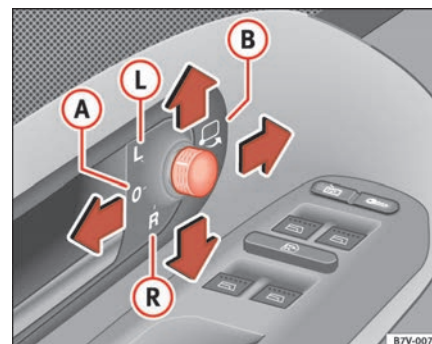

Fig. 81 Automatic anti-dazzle function for interior mirror
This function can be activated and deactivated by pressing the rearview mirror switch ⇒ page 119, fig. 81 ①. When it is activated, the warning lamp lights up ②. ■